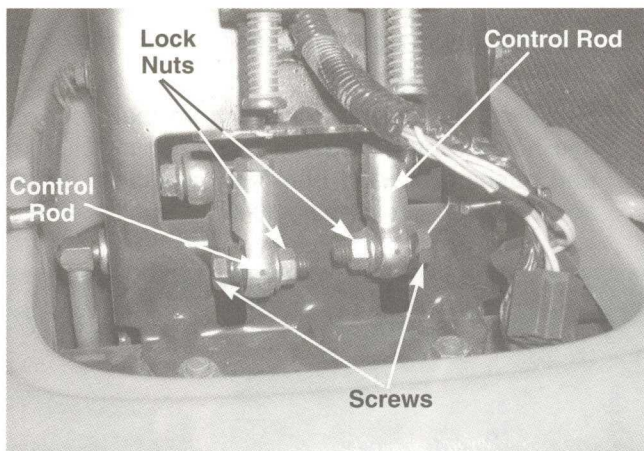

FIGURE 6.
11. Remove the hex cap screw and flange lock nut securing each control rod assembly to the lower left and right bellcrank assemblies using a 9/16 socket and a 9/16 wrench. See figure 6.